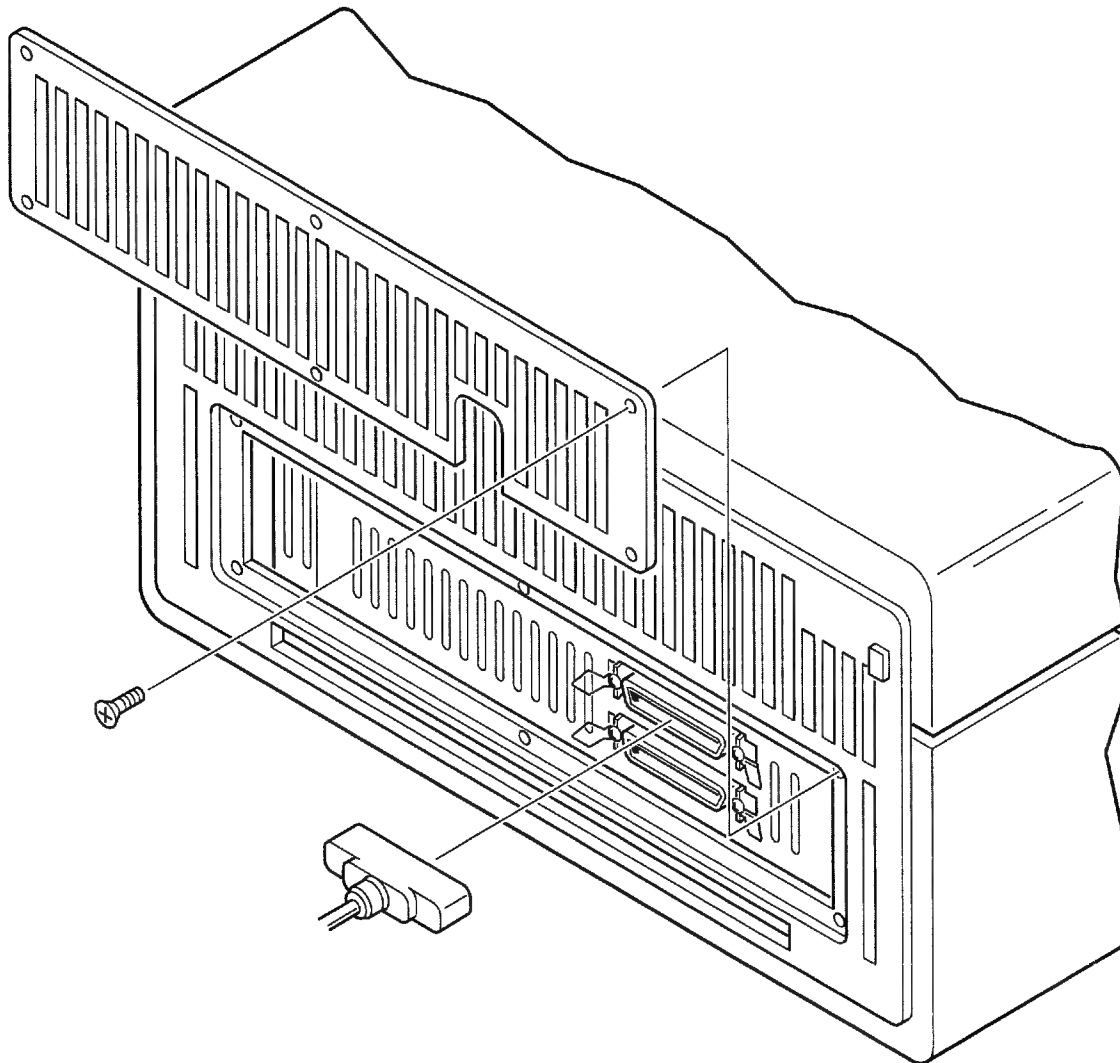

Figure 2-3. Installation of a SCSI Cable in an Enclosure
8. The recommended routing for the SCSI cable is through the rectangular opening in the lower right side of the back of the enclosure. See Figure 2-3. The rear panel of the enclosure comes off by removing six screws.